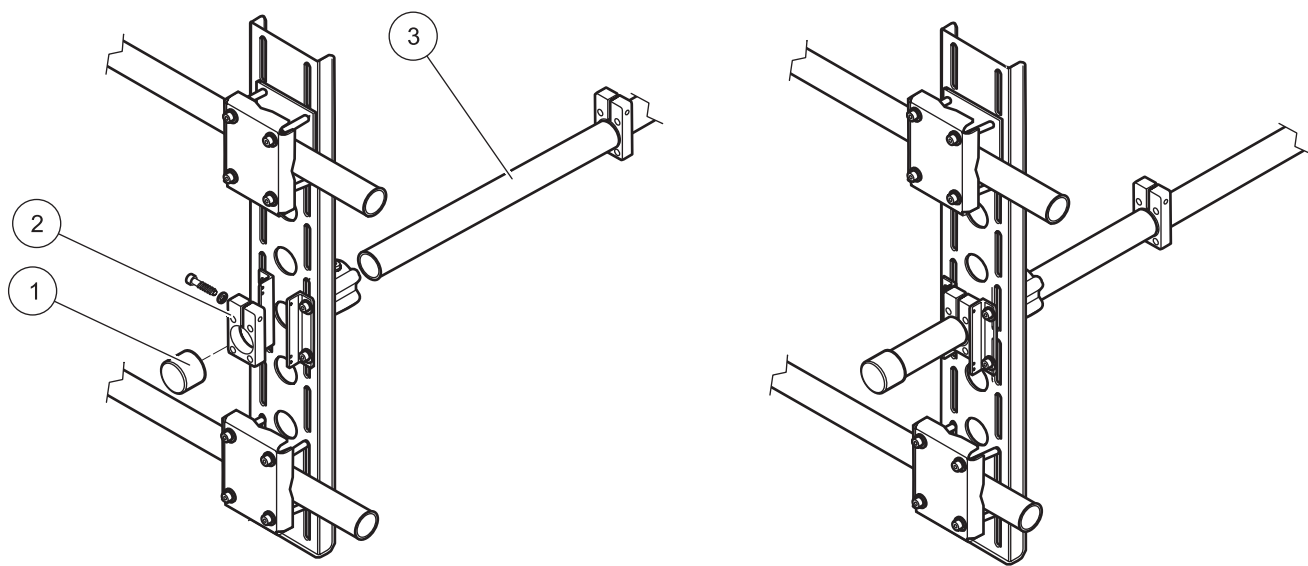

Figure 10 Fitting the supporting pipe, clamp and pipe cap
6. Insert the supporting pipe through the base and fit the third clamp between the angles using one M8 x 40 mm socket head cap screw and spring washer (Figure 10 on page 8).